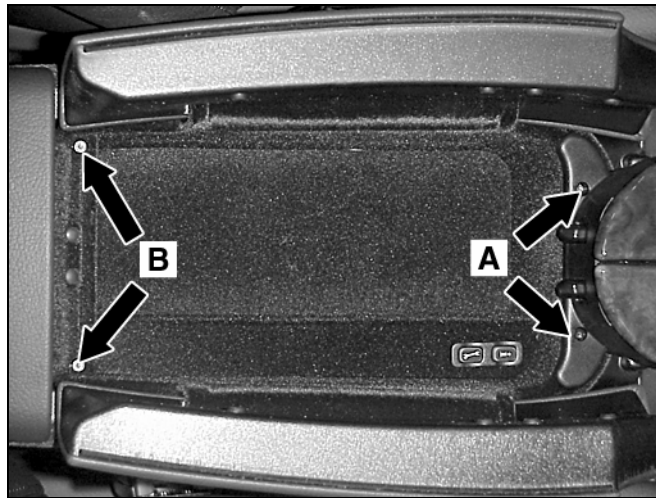

Figure 8
2. Remove the release button assembly for the upper compartment doors by removing the two T10 Torx screws (A, Figure 8)
3. Remove the two T8 Torx screws securing the false floor to the upper compartment (B, Figure 8).